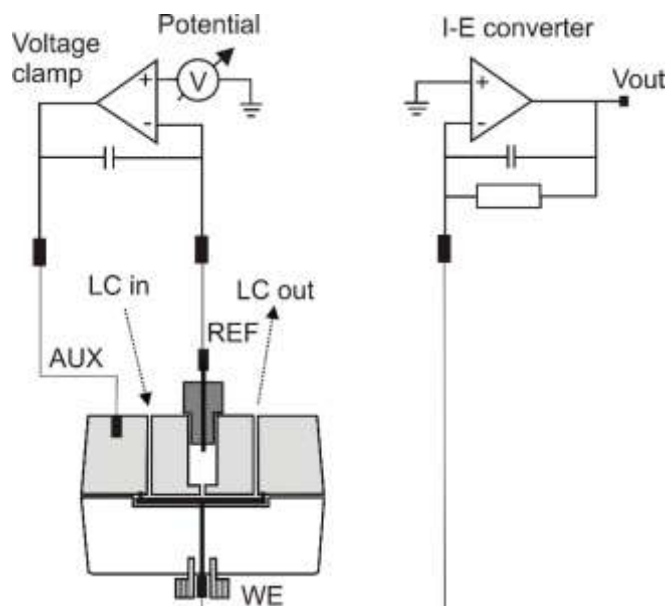

Fig. 10. Schematic representation of an electrochemical cell and potentiostat electronics operating with a three-electrode configuration.
The circuitry of the ROXY Exceed potentiostat is designed for operation with electrochemical flow cells with both a two or three-electrode configuration (Fig. 10). In a three-electrode configuration the working potential is set between the working electrode (WE) and the auxiliary electrode (AUX). The AUX is kept at a precisely defined reference electrode (REF) potential by means of the so-called voltage clamp. This is an electronic feedback circuit that compensates for polarization effects at the electrodes.